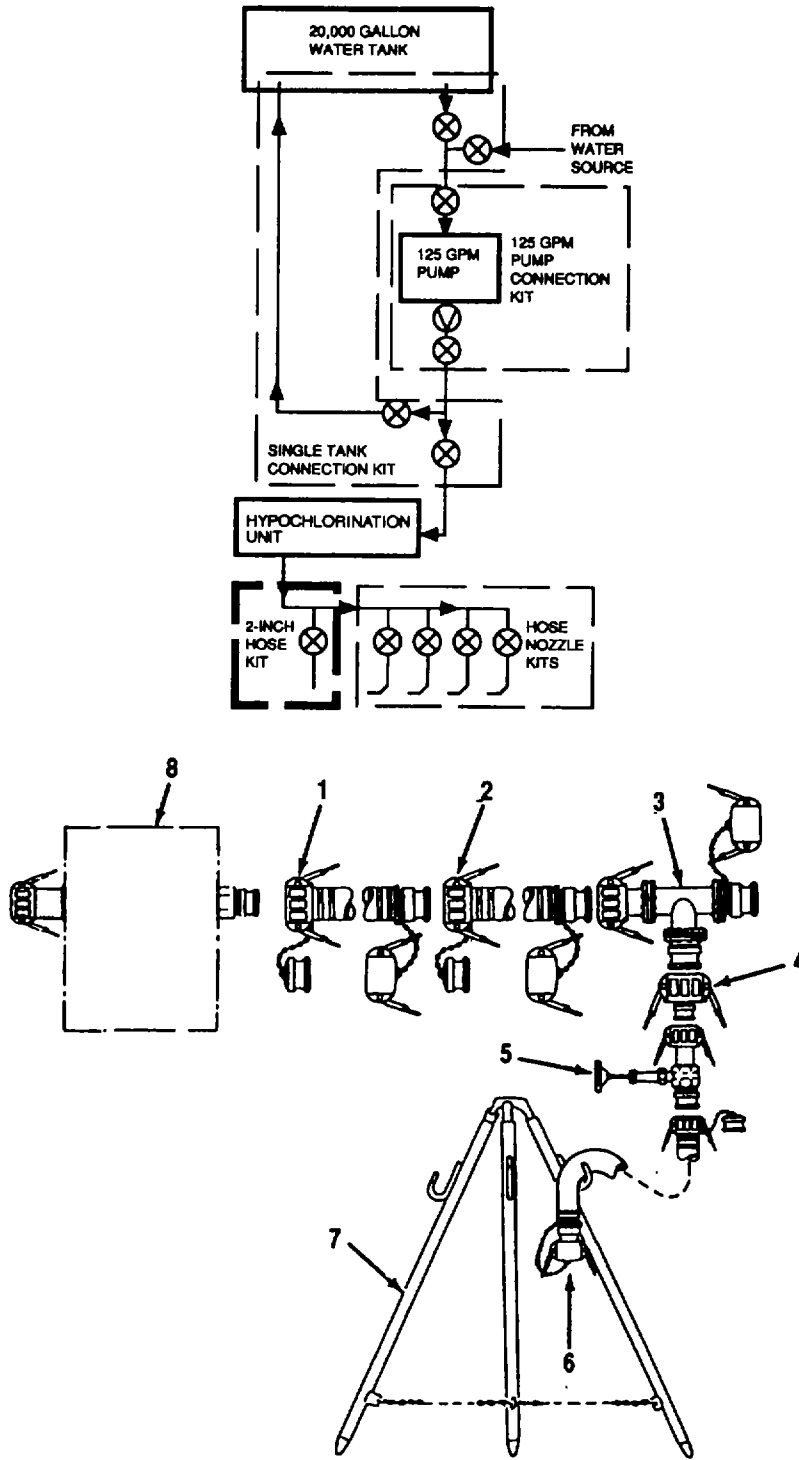

Figure 2-12. 2-Inch Hose Connection Kit Disassembly
- (5) Disconnect 2-inch x 20-foot discharge hose (7) from gate valve (6).
- (6) Disconnect 2-inch gate valve (6) from reducer (5).
- (7) Disconnect reducer (4-inch female x 2-inch male) (5) from tee (4).
- (8) Disconnect tee (4) from 4-inch x 20-foot discharge hose (3).
- (9) Disconnect 4-inch x 20-foot discharge hose (3) from cinch x 20-foot discharge hose (2).
- (10) Disconnect 4-inch x 20-foot discharge hose (2) from tee assembly (1) (2-inch hose connection kit).
- (11) Repeat steps 1 through 10 for remaining hose nozzle connection kits.
- (12) Drain and allow components to dry.
- (13) Install caps and plugs on component couplings (para. 2.7c).
- (14) Roll all discharge hoses and secure with tape.
- c. Disassemble 2-Inch Hose Connection Kit. Refer to Figure 2-12.